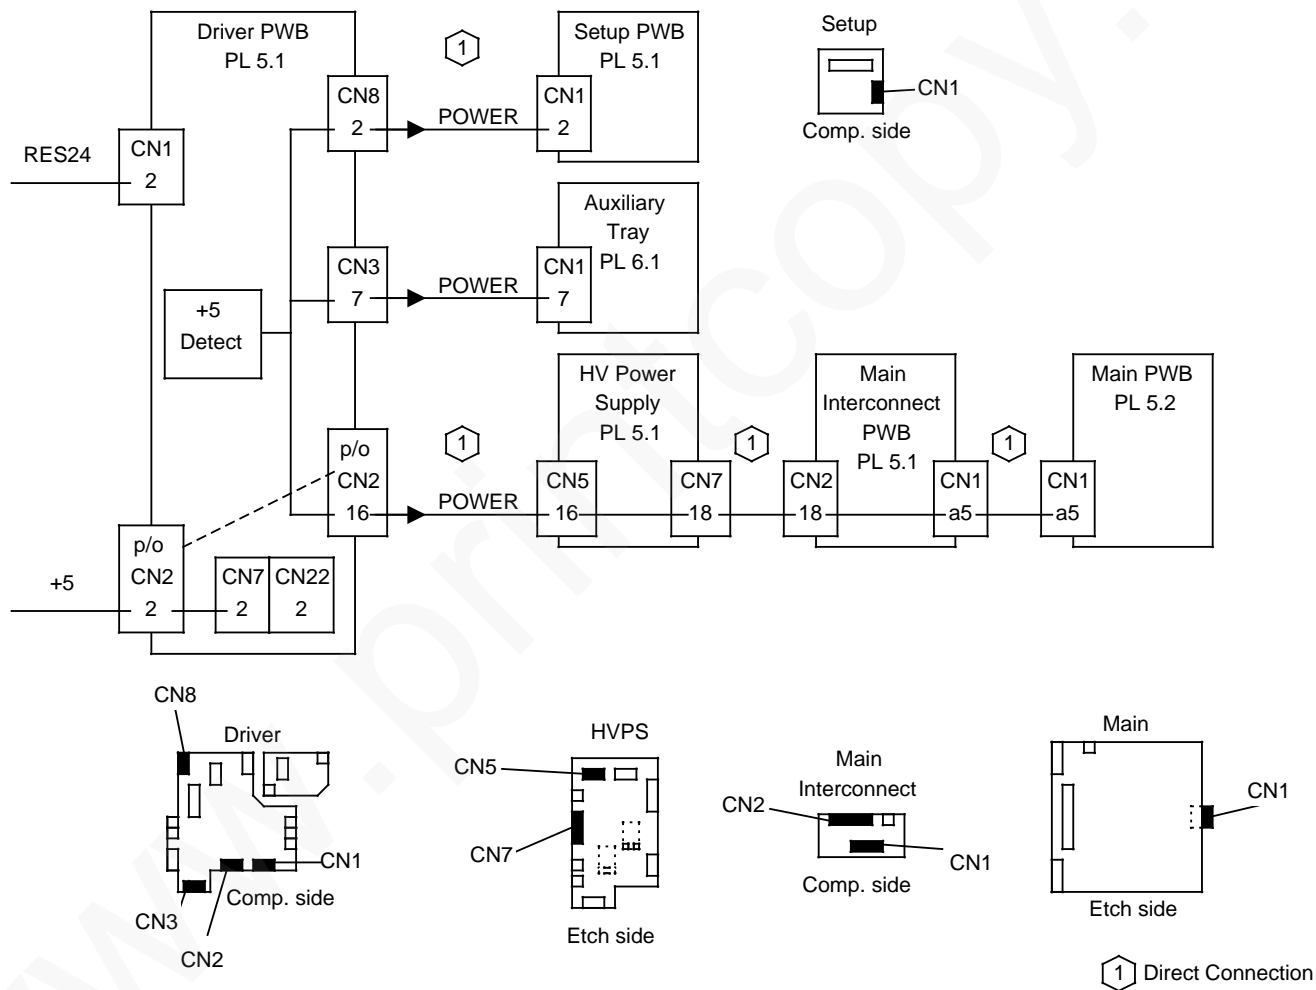

Figure 1. +5 Volt Monitor
9. Check the RES24 signal at the driver PWB. (Figure 1)
Measure the driver PWB, CN1, pin 3 to ground. (Figure 1)